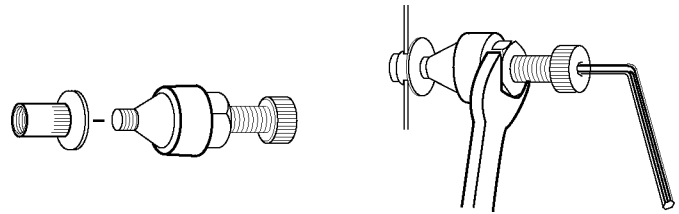

Fig. 9
9. Thread a Riv-nut fully onto the Riv-nut tool (see Fig. 9). (The Riv-nut tool is not supplied.)
11. Use a 3/8" Allen wrench and a 5/8" open-end wrench (or small adjustable wrench) as shown in Fig. 9. Hold the Allen wrench and turn the Riv-nut tool counterclockwise (ccw) until the Riv-nut is installed and tightened. Do not over-tighten; this will cause excessive deformation.